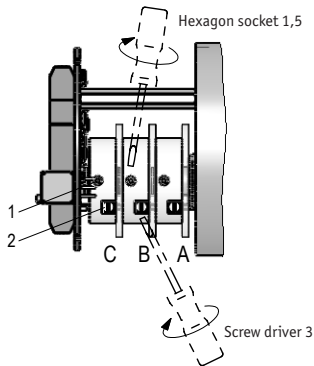

Fig. 10: Trip cam adjustment
- Bring the turnable trip cams (A, B, C) into a position which is favorable for fine adjustment: grub screw (1) and screw (2) must be easily accessible.
- Fix the grub screws (1) to prevent straining of the trip cams.
- The setting screw (2) is used for precise setting of the trip cam; use a screw driver size 3 (see fig. 10).